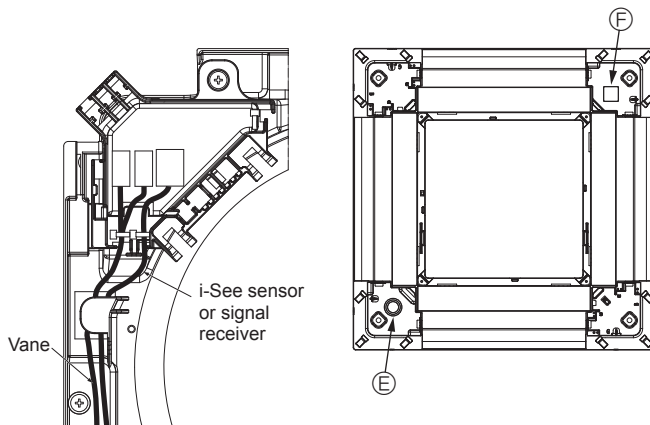

Fig. 6-14
- Route the i-See sensor and signal receiver wires as shown in Fig. 6-14.